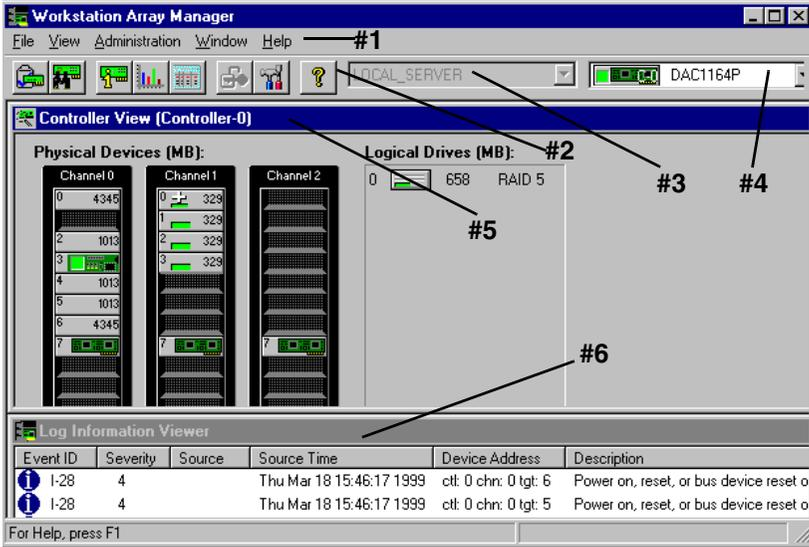

Figure 3-2. Opening WSAM Screen
Upon startup, Workstation Array Manager displays the opening screen, consisting of the Workstation Array Manager window, the Controller View window and the Log Information Viewer (Figure 3-2).
The major components of the Workstation Array Manager window (Figure 3-2) are described below:
5. Item #5 in Figure 3-2 is the Controller View for the controller selected in the controller selection box. WSAM opens with the controller view of controller C-0 displayed by default. The controller view displays controller channels, physical devices, and logical drives. See Chapter 5 for additional information.
6. Item #6 in Figure 3-2 is the *WSAM Log Information Viewer*. Each line in the Log Information Viewer identifies a single *event* (error, status, warning, etc.) which was noted during monitoring by the local server and was transmitted to WSAM. Relevant details accompany the event: